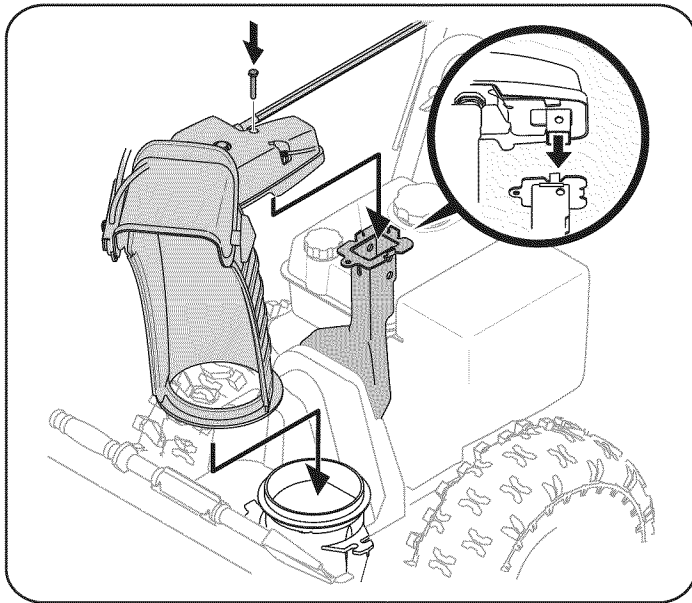

Figure 4
- Place chute onto chute base and ensure hex rod is positioned under handle panel. Install hex bolt previously removed but do not secure with wing nut at this time. See Figure 4.